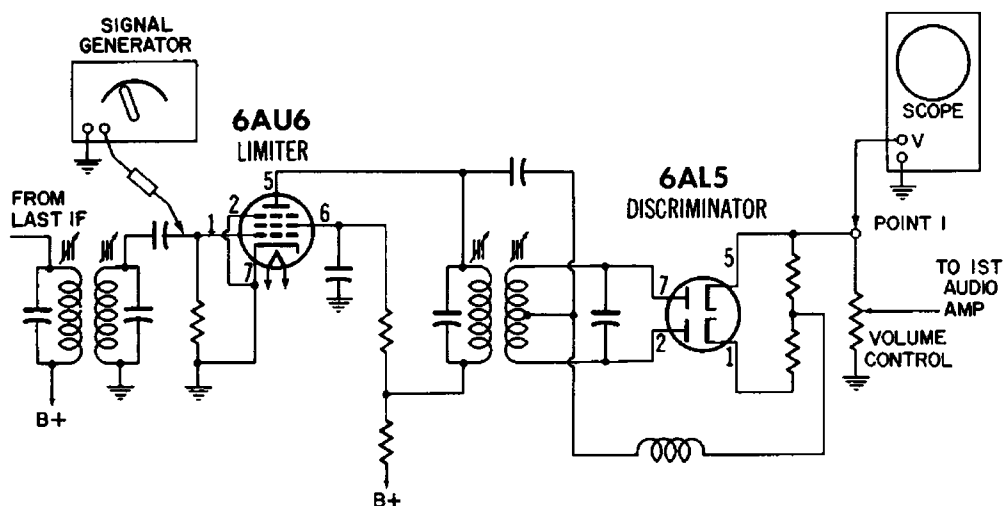

Fig. 10-1. Equipment connections for discriminator alignment.
2. Adjust the sweep generator to the receiver IF frequency (usually 10.7 mc), and adjust the sweep width to approximately 200 kc. (The manufacturer's service manual gives the exact sweep width recommended.) Couple the sweep-generator output to the grid circuit of the limiter preceding the discriminator as shown in Fig. 10-1. If a limiter
3. Connect the scope leads across the input to the first audio amplifier (Point 1 in Fig. 10-1). Adjust the scope operating controls for the proper trace.